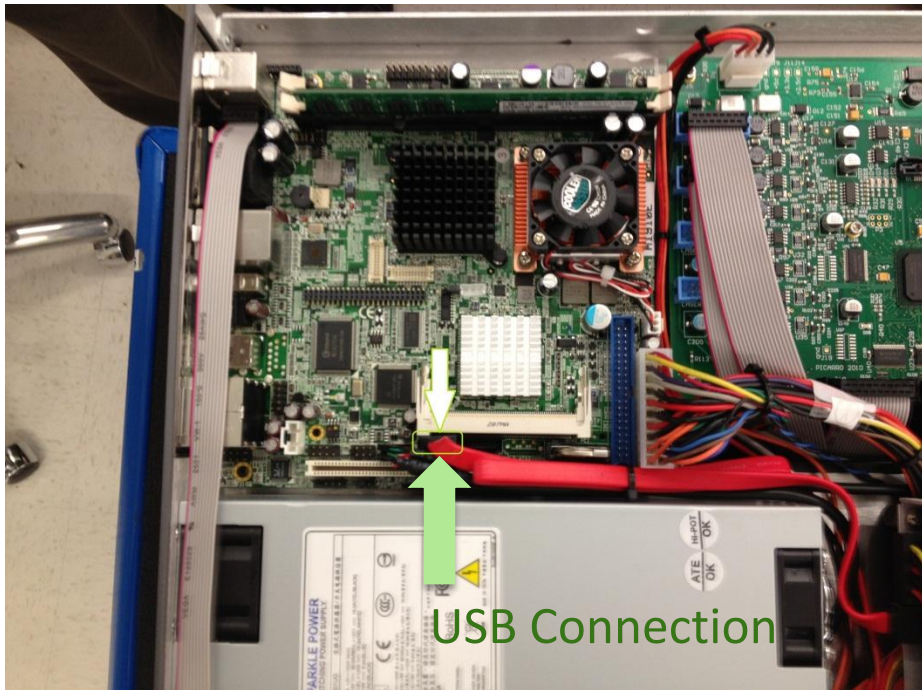
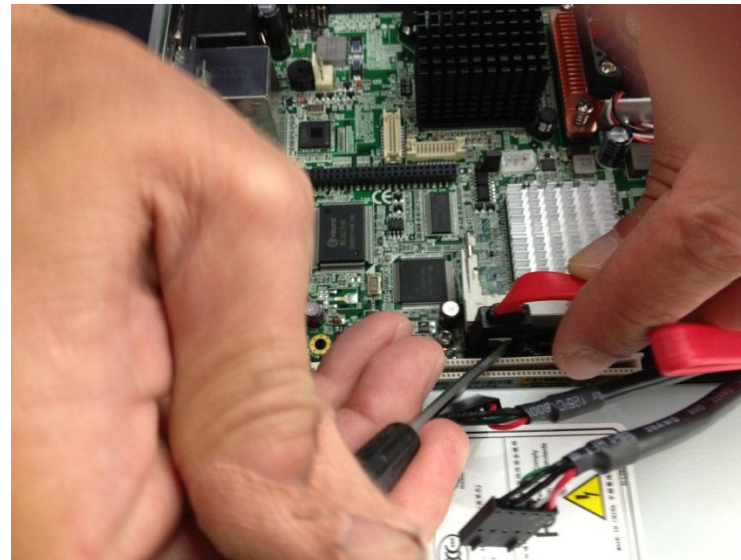

FIGURE 8: USB Cable Location
FIGURE 9: Removing USB Cable by unlocking tab
6. Disconnect the USB cable (Figure 8). This cable is also locked into the board connection with a locking tab. To remove the cable, depress the tab with a small hand tool like a screwdriver or if possible with your fingers (Figure 9), then pull straight up on the cable to disconnect